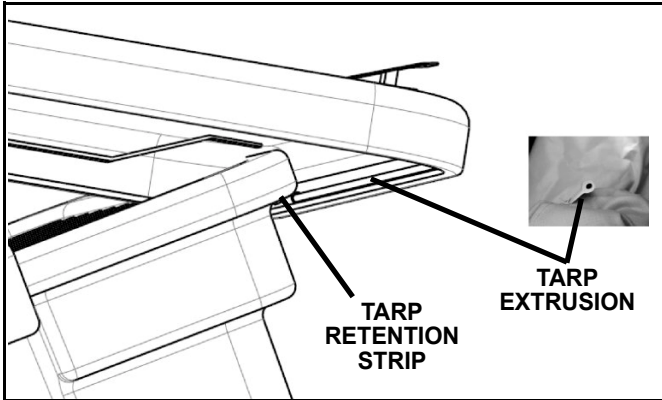

Figure 5
4. Insert the tarp white plastic extrusion on the bottom front edge of the tarp into the aluminum retention strip on the hopper. Slide the tarp across the spreader to insert the full length of the plastic extrusion into the retention strip channel. (See Figure 5.)